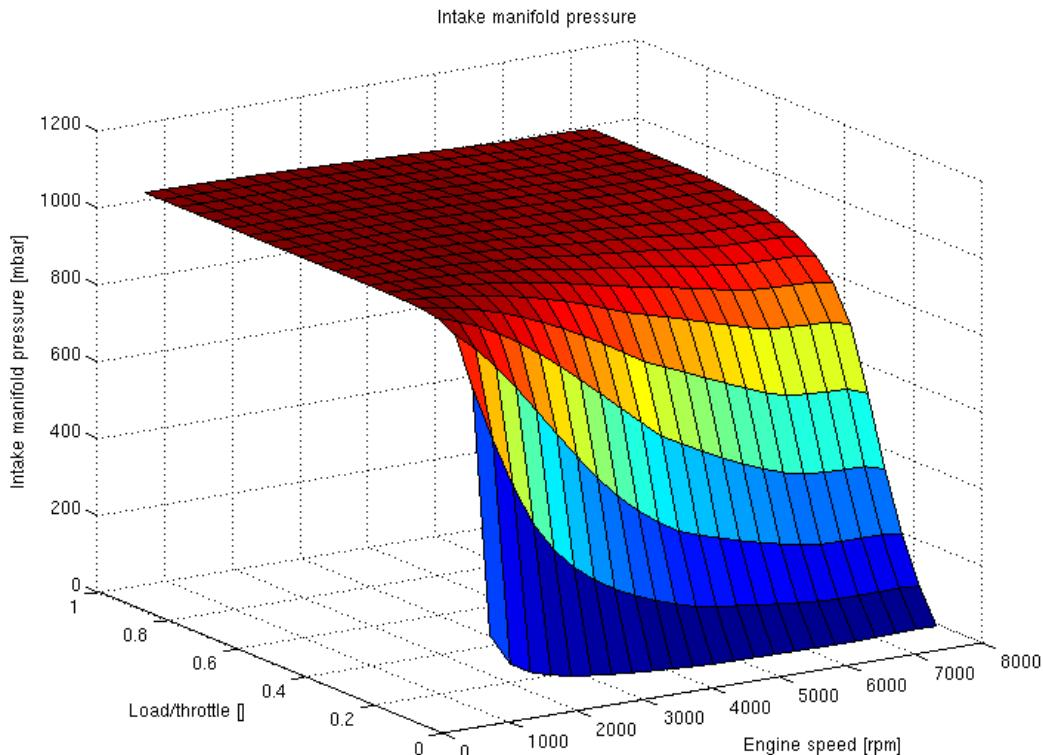

Figure 15.43: Typical intake manifold pressure for naturally aspirated engine
- Intake Manifold Pressure** For the engine torque model *Mapping* a simple model for an intake manifold pressure can be used, for example for a brake booster. This model is considered for a naturally aspirated engine without air precompression. Figure 15.43 illustrates a typical pressure behavior depending on engine speed and throttle position (engine load).